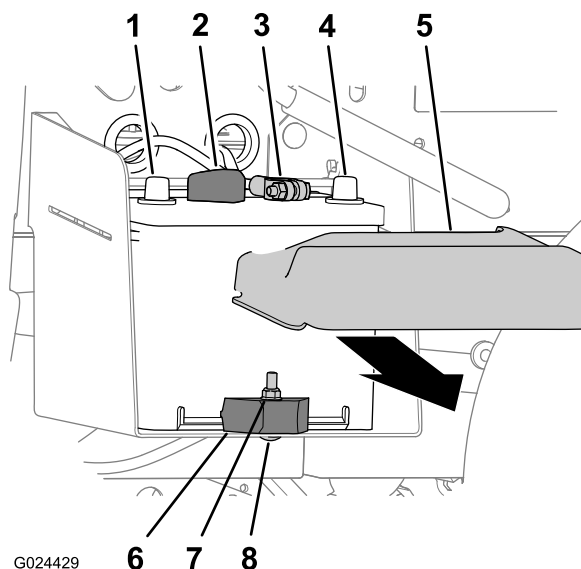

Figure 47
1. Squeeze the sides of the battery cover and remove the cover from the top of the battery (Figure 47).
2. Disconnect the positive-battery cable from the terminal of the battery (Figure 47).
3. Disconnect the negative-battery cable from the terminal of the battery (Figure 47).
2. Remove the locknut, carriage bolt, and battery clamp that secures the battery to the battery tray (Figure 47).
3. Remove the battery from the battery tray (Figure 47).
1. Align the battery to the battery tray of the machine (Figure 47).
Note: Ensure that the positive and negative posts of the battery are aligned as shown in Figure 47.
2. Secure the battery to the battery tray with the battery clamp, carriage bolt, and locknut (Figure 47).
1. Connect the positive-battery cable to the terminal of the battery (Figure 47).
2. Connect the negative-battery cable to the terminal of the battery (Figure 47).
3. Install the battery cover onto the top of the battery (Figure 47).